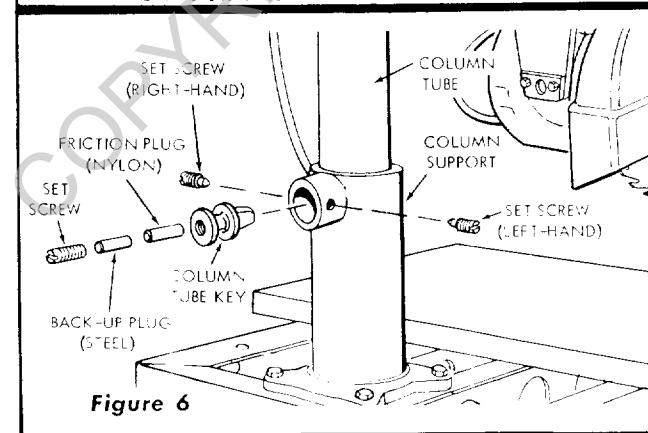
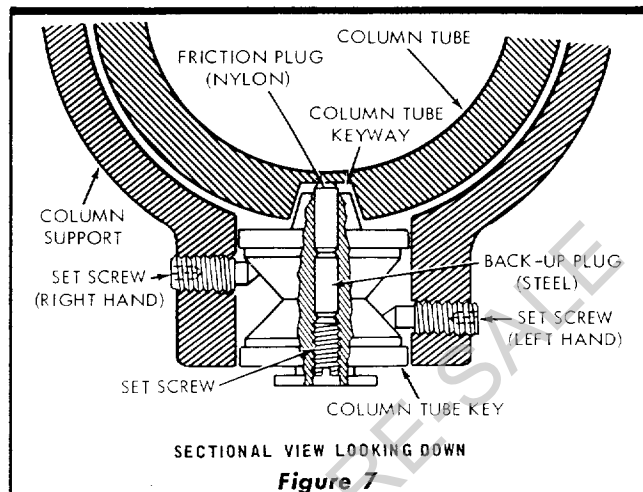
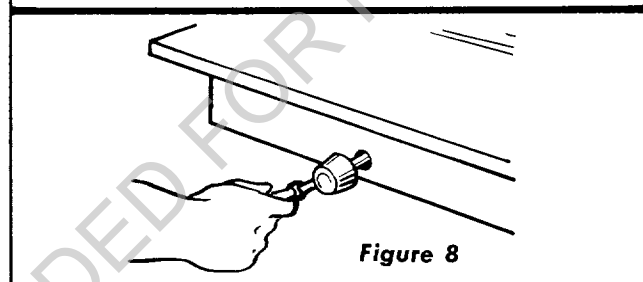

Figure 6
Figure 7
Figure 8
NOTE: Before attempting to adjust the column tube key, the function of this adjustment should be understood. Figure 6 is an exploded view of column tube key parts and figure 7 is a sectional view through the column tube support (looking downward) at this loca-
- Loosen set screw in center of column tube key. (See figures 6 and 7.)
- Loosen left-hand set screw 1/4 turn. (See figure 7.)
- Tighten right-hand set screw. (See figure 7.)
- Tighten left-hand set screw. (See figure 7.)
- Turn elevation crank to raise and lower radial arm. (See figure 8.) If too tight, loosen right-hand set screw (figure 7) slightly and check again for smooth operation. When correct, tighten left-hand set screw.
- Tighten set screw in center of column tube key (figure 7) until smoothest operation is obtained.